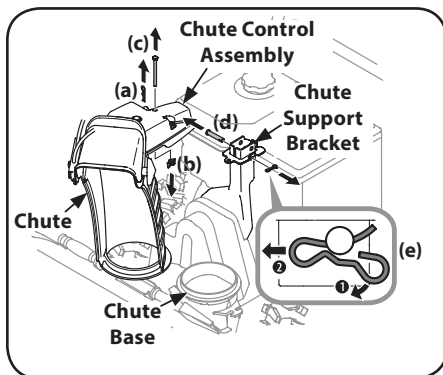

Figure 2-15
1. Remove hairpin clip (a), wing nut (b) and hex screw (c) from chute control assembly and clevis pin (d) and bow-tie cotter pin (e) from chute support bracket. See Figure 2-15.